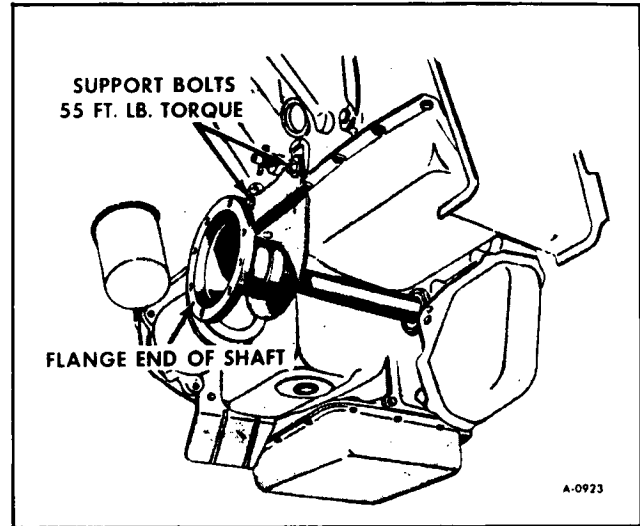

Figure 11—Aligning R.H. Output Shaft
shaft to the engine, do not let the shaft hang. Assemble support bolts loosely, and by moving the flange end of the shaft up and down, and back and forth, find the center location. Hold the shaft in this position and then torque the bolts to 55 ft. lbs. on support. Figure 11.
**NOTE:** When attaching the right hand output shaft to the engine, do not let the shaft hang. Assemble support bolts loosely, and by moving the flange end of the shaft up and down, and back and forth, find the center location. Hold the shaft in this position and then torque the bolts to 55 ft. lbs. on support. (Figure 11).